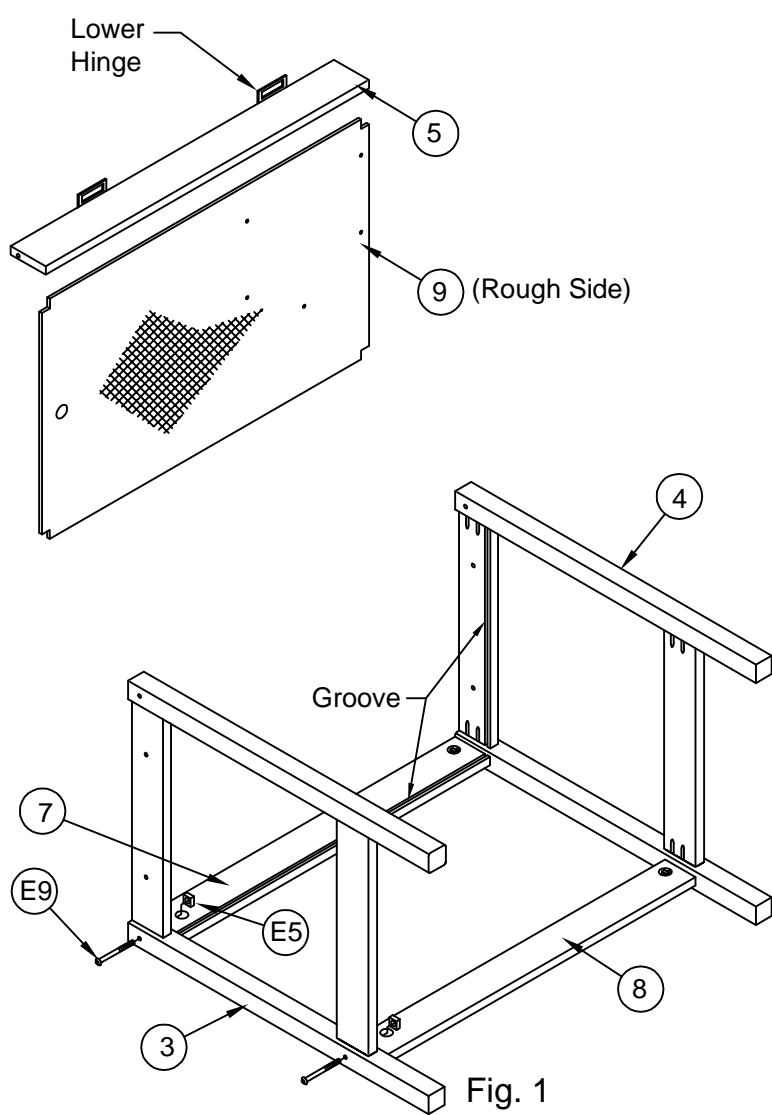

Fig. 1
1. Position Table End Assemblies (3 & 4) as shown per Fig. 1 and assemble Upper and Lower Back Rail (7 & 8 - rails without hinges) using Bolts (E9) and Square Nut (E5). NOTE: Do not tighten any bolts until base is fully assembled.
2. Align Well Bottom (9) into grooves with the rough side down and hole cluster to the right side of the assembly. Slide into position.
3. Attach Front Rail Assembly (5) using Bolts (E9) and Square Nut (E5) per Fig. 1. Tighten all previously assembled bolts on base. Stand table up on legs.